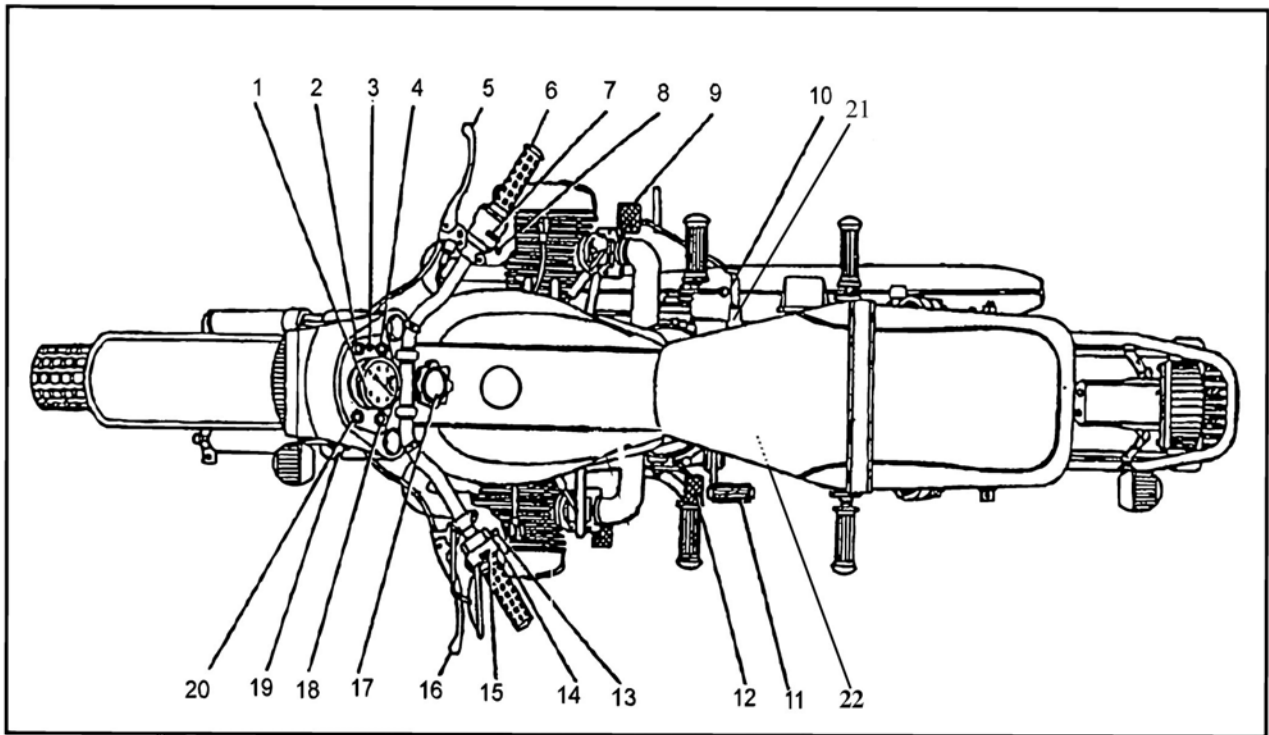

Figure 1. Controls and Instrumentation
Clutch control lever (Fig.1, #16) . When the clutch lever is squeezed, the engine is disengaged from the gearbox. When the lever is released, the engine and gearbox are engaged.
Front brake control lever (Fig.1, #5). When the lever is squeezed, the front wheel brake is actuated. The front brake should be used together with rear brake.
Kick lever (Fig.1, #11) is designed to start the engine. On pressing the lever the crankshaft of the engine is actuated through the gearbox. The lever is returned to its initial position by the spring inside the gearbox. *Note: this is a backup to the electric starter.*
Gear shift foot pedal (Fig.1, #12) is a two-arm type. When the front arm is pressed, shifting from high to lower gears takes place. When the rear arm is pressed, shifting from low to higher gears takes place. Since the heel-toe shift lever is short-coupled, you will find it easier to shift up if you rotate the heel of your left foot in towards the rear arm before stepping on it with your heel. The neutral position is fixed between the I and II gears.
Reverse gear engagement lever (Fig.1, #10) Forward for neutral and/or forward running and back for reverse. **The reverse gear may be engaged only after the motorcycle is completely stopped!**
The **rear brake pedal** (Fig.1, #9) applies the rear wheel and sidecar wheel brakes simultaneously.
Ignition Switch (Fig.1, # 19) has three fixed positions of the key. The position and switching diagram of the ignition locks are shown above.
Speedometer is on the dash board, with trip (Note..BC-75 has no trip odometer) and total odometer. The trip odometer is reset to zero by rotating push-button (Fig.1, # 3) counter-clockwise. Note that the odometer reads in kilometers not miles.
(Fig. 1, # 2) — turn indicator pilot lamp, (orange)
(Fig. 1, # 4) — gearbox neutral and reverse gear engagement, (green)
(Fig. 1, # 18) — head lamp high beam indicator, (dark blue)
(Fig. 1, # 20) — alternator fault indicator lamp, (red)
Throttle Control (Fig.1, # 6) is on the right handlebar. Turning the twist grip counterclockwise increases engine speed.
Ignition Cutoff Switch (Fig.1, # 7) has two positions, ignition off (up), and ignition on (down).
Low and High Beam Light Switch (Fig.1, # 15), **turn indicator switch** (Fig.1, #13) and **horn push-button** (Fig.1, # 14) are combined in one unit on the left-hand handle bar control housing.
Master Battery Switch (Fig.1, # 21) is under the seat.
Electric Start Button (Fig. 1, # 8) is located on the right-hand twist grip, below the kill switch.
The **Steering Damper** absorbs lateral kicks on the front wheel. Turning tightening bolt (Fig.1, # 17) clockwise increases friction. This can be used while riding over bad roads.
Parking brake (Fig. 1, # 22) is located on the right side of the motorcycle next to the foot peg. It is engaged by applying the foot brake pedal fully and turning the handle and pushing it down to hold the foot brake lever in the applied position.
1. Turn on the ignition and depress the kick lever (see Fig. 1) about 1/4 of its travel (enough to firmly get the ball of your foot on the lever) with either your left foot or right foot, depending on what position is most comfortable with your right hand on the throttle. Take up the slack in the throttle until you can feel some slight resistance from the return springs in the carburetors. However, do not advance the throttle, since this may flood the engine.